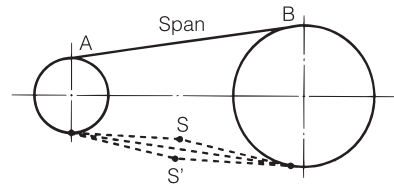

Fig. 14 Amount of chain slack
2) Generally, the slack of roller chain should be on the lower side. Adequate slack is calculated by moving the chain by hand in a downward direction from the center. The chain slack that you move by hand (SS') should be about 4% of the span (A-B). (Ex. The amount of slack when span length is 31.5" would be  $31.5 \times 0.04 = 1 \frac{1}{4}$ ". See figure 14.